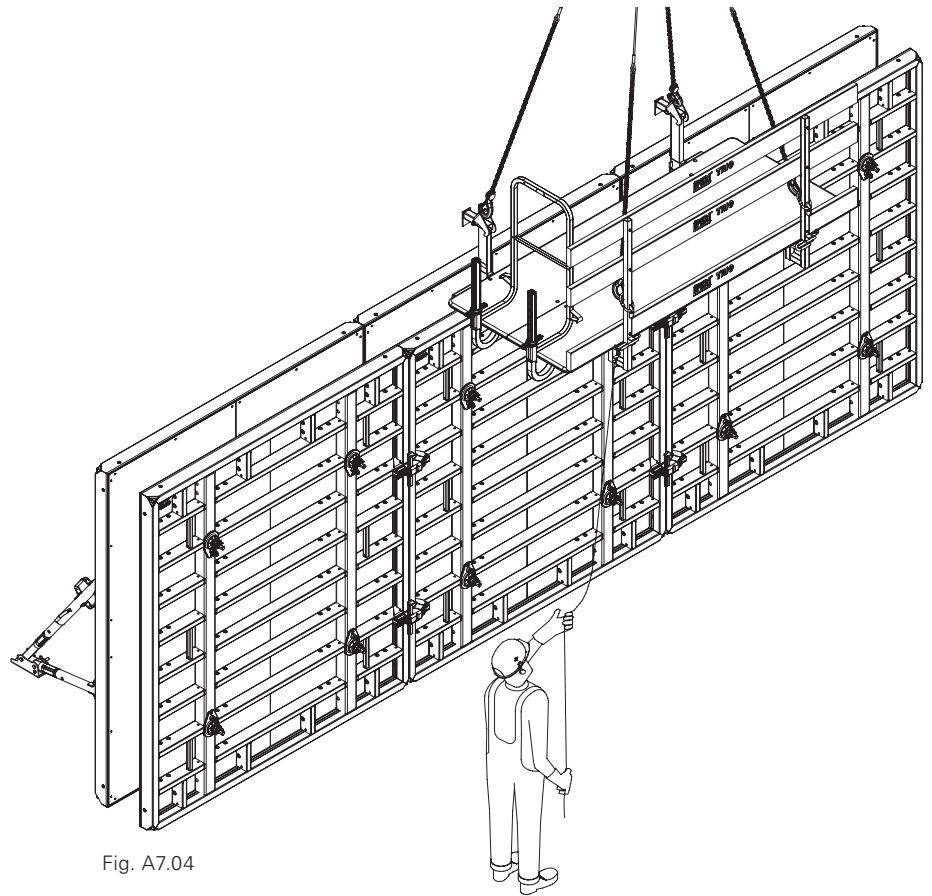

Fig. A7.04
4. Attach concreting platform to the top edge of the formwork by means of the Suspension Beam. Guide from below using guide rope. (Fig. A7.04)